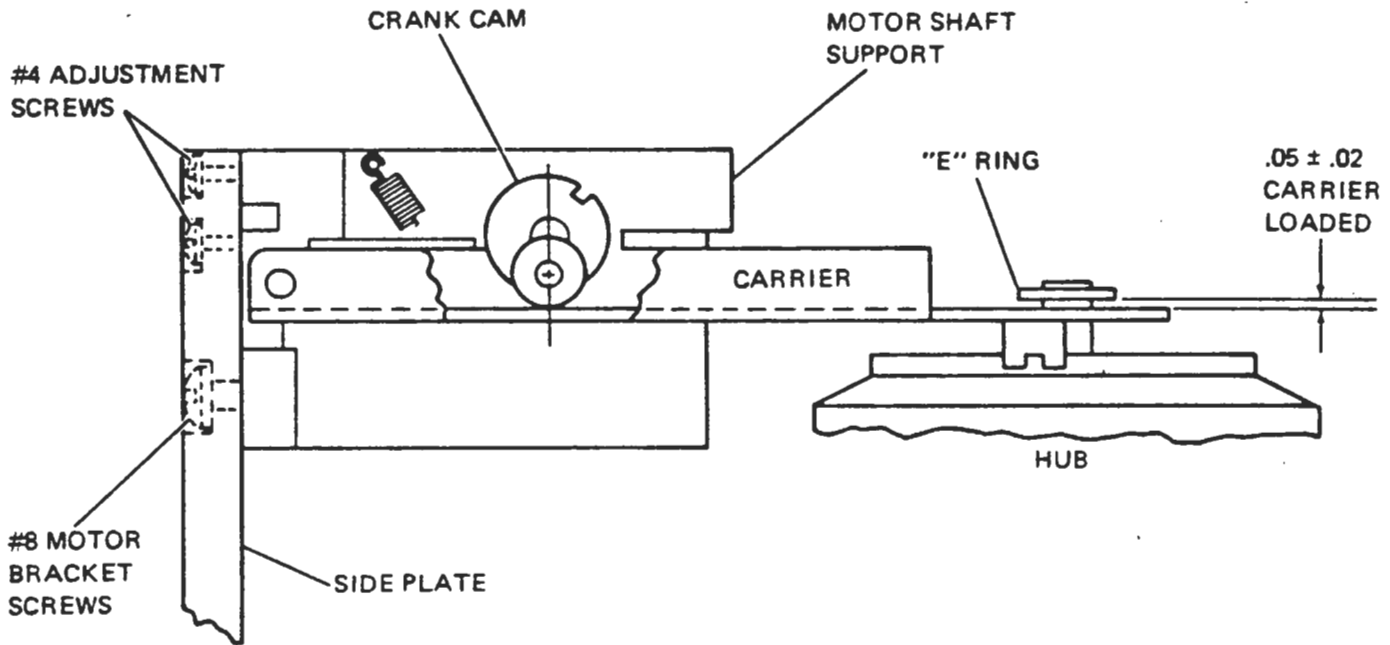

Figure 6-14 Crank Cam Alignment Check
- c. Observe the gap between the E-ring which holds the cone assembly to the carrier and the corresponding carrier surface. (Figure 6-14)